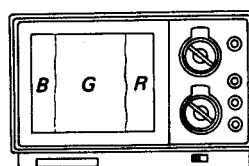
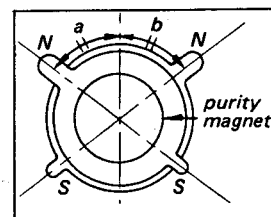

Fig. 3-5. Green band centering
Fig. 3-6. Purity magnet position
- (5) Adjust the purity magnet tabs to center the green band on the screen as shown in Fig. 3-5. Note that the purity magnet tabs should be placed equal amounts in opposite directions as shown in Fig. 3-6 ( $a = b$ ).